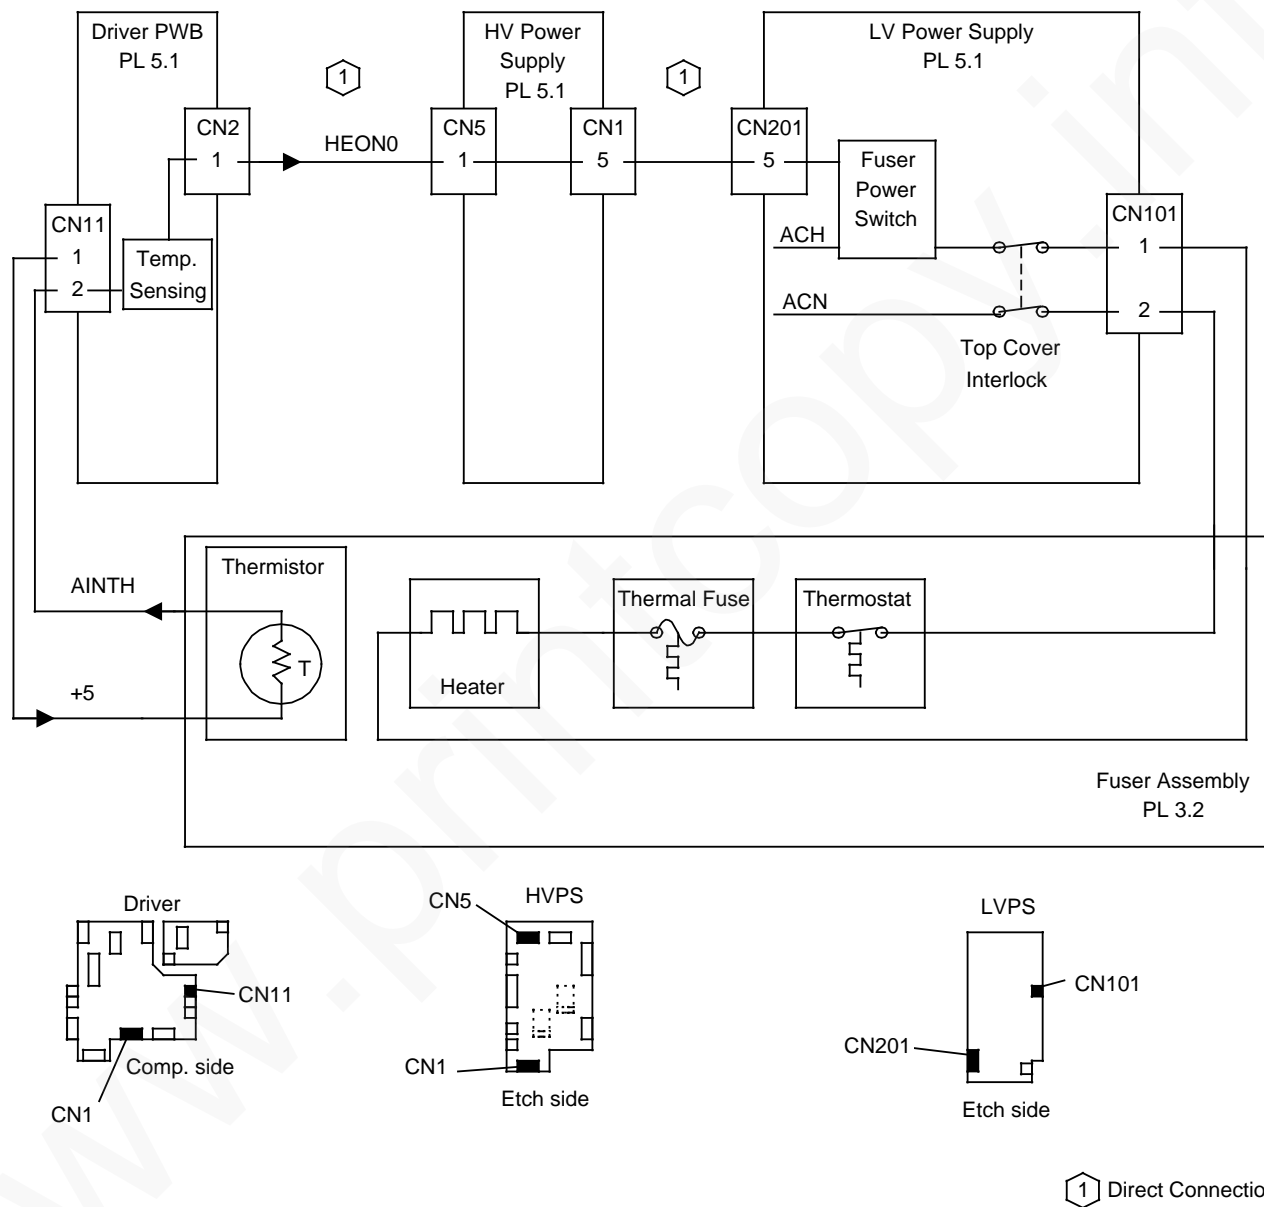

Figure 1. Fuser
9. Check the fuser on signal. (Figure 1)
4. Check the A4 document sensor power. (Figure 1)